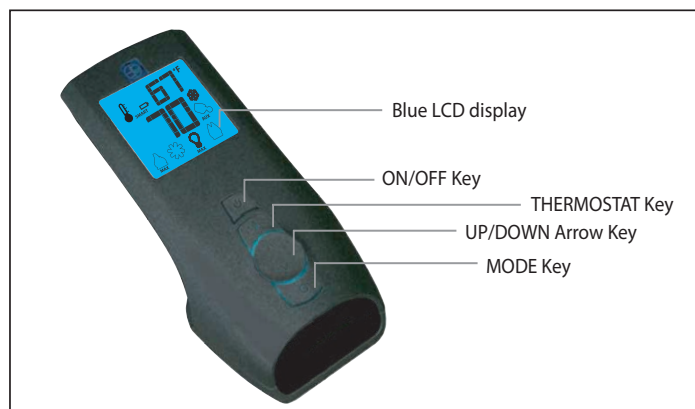
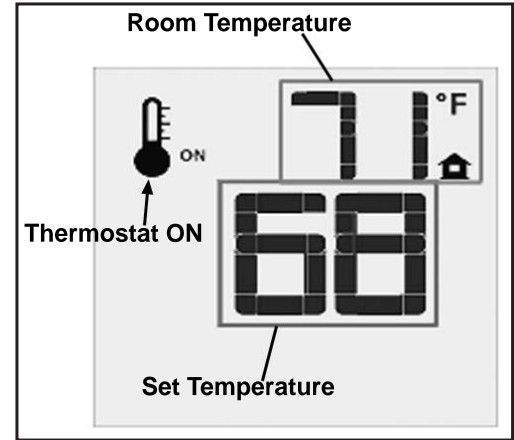
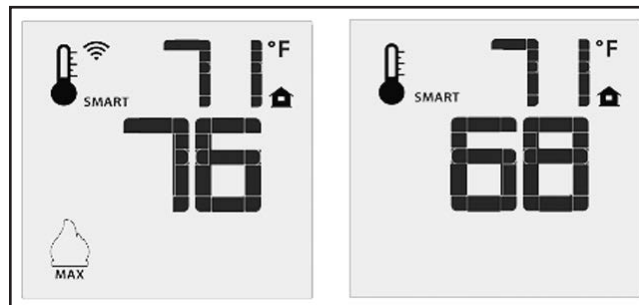
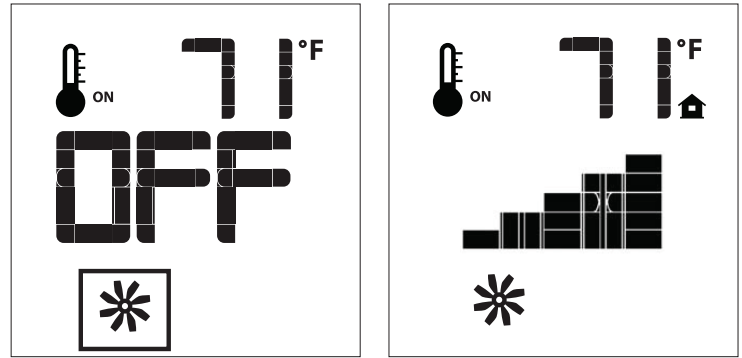

Figure 5: Proflame 2 Transmitter.
Figure 10: Remote Control Displays Set Temperature.
Figure 11: Remote Control's Smart Flame Function.
Figure 13: Fan Control
The Proflame 2 Transmitter is a black remote control with a blue backlit lcd display. It uses a streamline design with a simple button layout and informative lcd readout (Figure 6). The Transmitter is powered by three (3) AAA type batteries. A Mode Key is provided to Index between the features and a Thermostat Key is used to turn on/off or index through Thermostat functions (Figure 5 & 6)
Press the ON/OFF Key on the Transmitter. The Transmitter LCD display will only show the room temperature and Icon (see Figure 10). A single “beep” from the IFC confirms reception of the command and both the pilot light (if the unit is not set to continuous pilot) and main burner will turn off.
The Remote Control can operate as a room thermostat. The thermostat can be set to a desired temperature to control the comfort level in a room. To activate this function, press the Thermostat Key (see Figure 5). The LCD display on the Transmitter will change to show that the room thermostat is “ON” and the set temperature is now displayed (see Figure 10). To adjust the set temperature, press the Up or Down Arrow Keys until the desired set temperature is displayed on the LCD screen of the Transmitter.
The Smart Thermostat function adjusts the flame height in accordance to the difference between the set point temperature and the actual room temperatures. As the room temperature gets closer to the set point the Smart Function will modulate the flame down. To activate this function, press the Thermostat Key (Figure 5) until the word “SMART” appears to the right of the temperature bulb graphic (Figure 11). To adjust the set temperature, press the Up or Down Arrow Keys until the desired set temperature is displayed on the LCD screen of the Transmitter.
The Q2LI comes with a convection fan that can be controlled with the Transmitter. The fan speed can be adjusted through six (6) speeds. To control the fan press the MODE key (Figure 5) to index to the fan control icon (Figure 13). Use the UP/DOWN arrow keys to turn on, off, or adjust the fan speed (Figure 13). A single beep from the IFC will confirm the command has been received